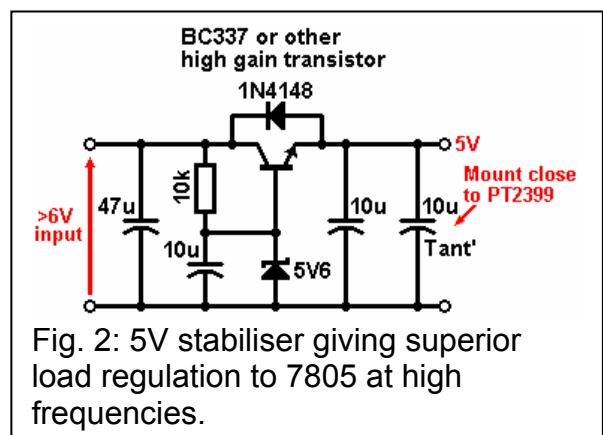

Fig. 2: 5V stabiliser giving superior load regulation to 7805 at high frequencies.
- A 7805 regulator IC gives reasonable rejection of power supply noise. However, an alternative is to use a zener follower which gives superior load regulation at high frequencies, see fig. 2. This results in less power supply noise at the expense of poorer line regulation.